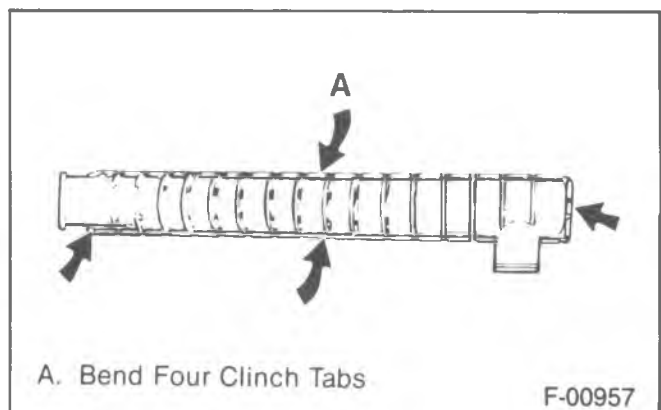

Figure 35—Sealing the Tank to the Radiator Core
9. Position the tank and gasket to the header, clamp it in place and secure it by bending four clinch tabs as shown in figure 35.